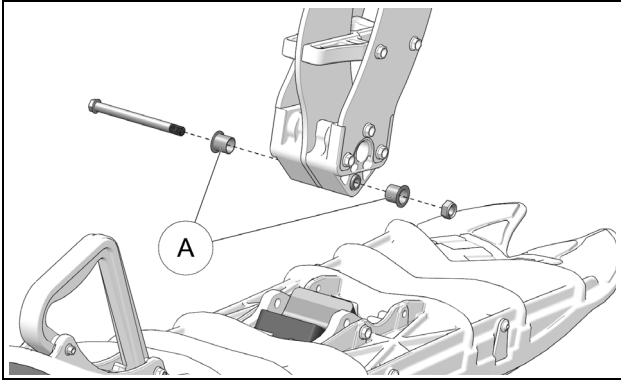

Figure 66
Verify play and extent of wear on the nylon bushings (A) guiding the assembly bolt that secures the ski to the spindle. If there is abnormal play in the bushings, replace them. See Figure 66.